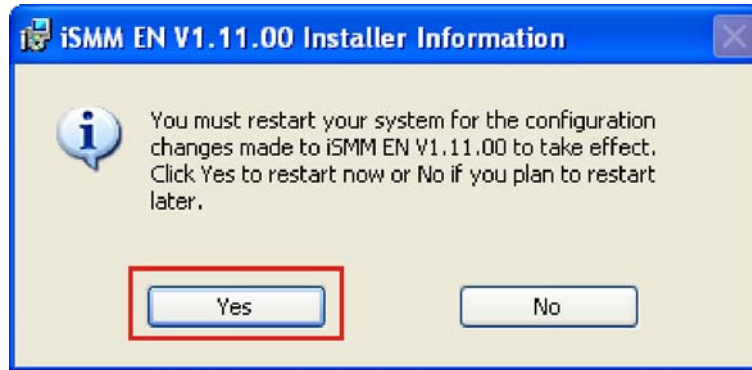

Figure 6-37: iSM Restart Confirmation
Step 22: The **Restart Confirmation** screen appears.(Figure 6-37)